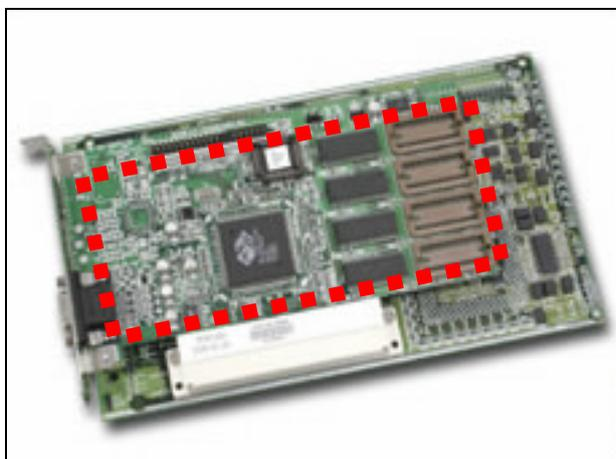

*Fig. 2-32 PCI slot on the back of PPAP-200*
1. The PCI slot is located on the back of the board (*Fig. 2-32*).